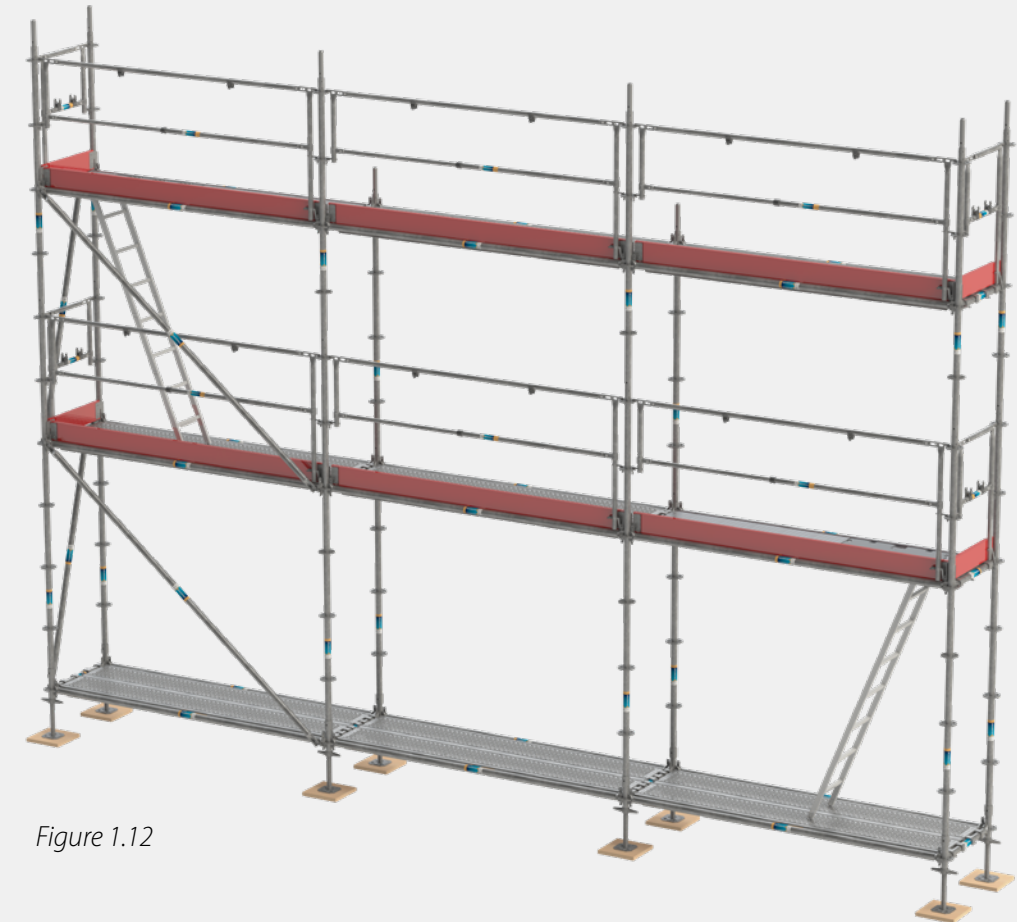

Figure 1.12
1.2.14 The steel decks, (ladder) platforms and toe boards can now be positioned for the second level (see figure 1.12).